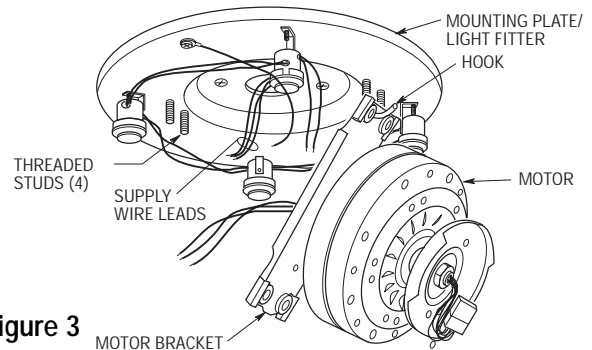

Figure 3
2. Carefully lift the motor assembly and engage the slot in the motor bracket with the hook on the mounting plate/light fitter so that it is securely suspended (Figure 3). Then connect wiring to your fan according to section "HOW TO WIRE YOUR CEILING FAN".